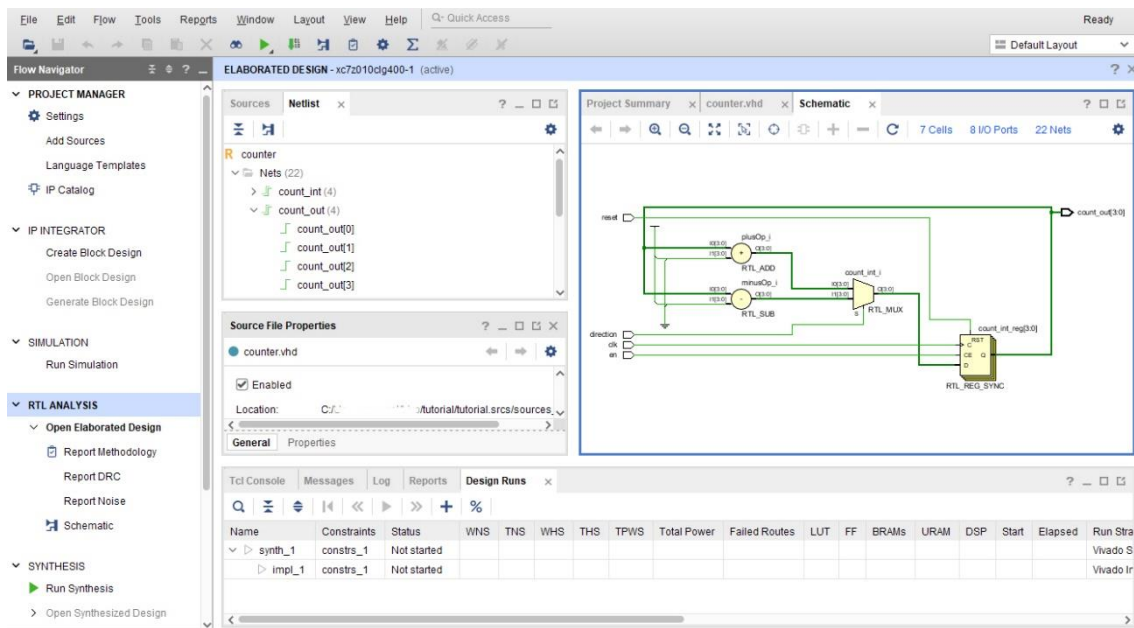

Figure 14
9. Figure 14 shows the **Schematic** representation of our description at the RTL level; this representation should open automatically in the **Elaborated Design** window, now the main window of our project; if it does not open, go to the **Flow Navigator** window and in the section **RTL Analysis** → **Elaborated Design**, click **Schematic**